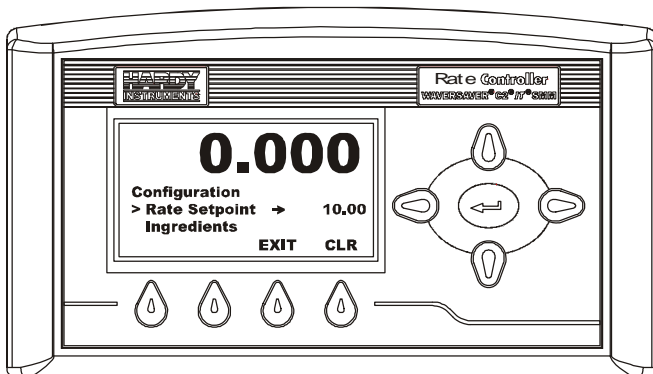

FIG. 8 CONFIGURATION DISPLAY
Step 1. Remove the factory installed jumpers from the terminal block if you are connecting an 8 wire cable from the junction box. (See Fig. 8)
- Step 3. Press the Enter button to go to the Configuration menus. (See Fig. 8)